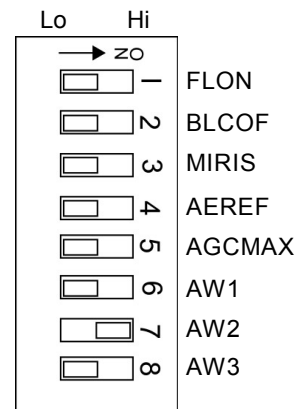

Figure 4. DIP switch settings
- 4) Set the DIP switch (see Figure 4) to the settings appropriate for your camera situation.